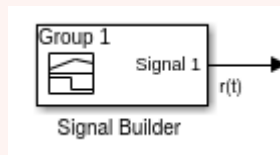
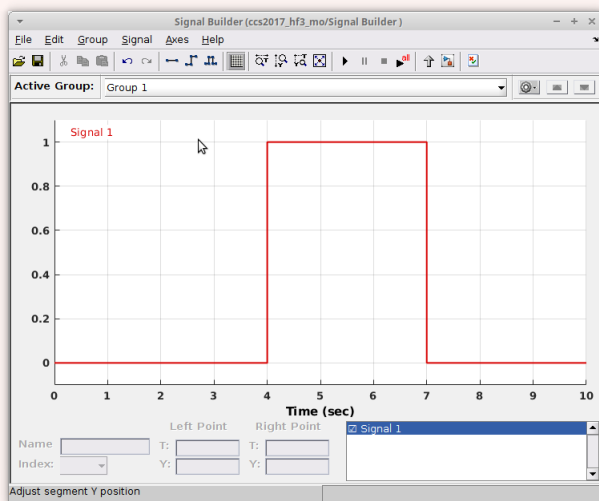

Figure 5.
Figure 8.
3. Define a reference signal. You may use the “Signal Builder” block (Figure 5, Figure 8).